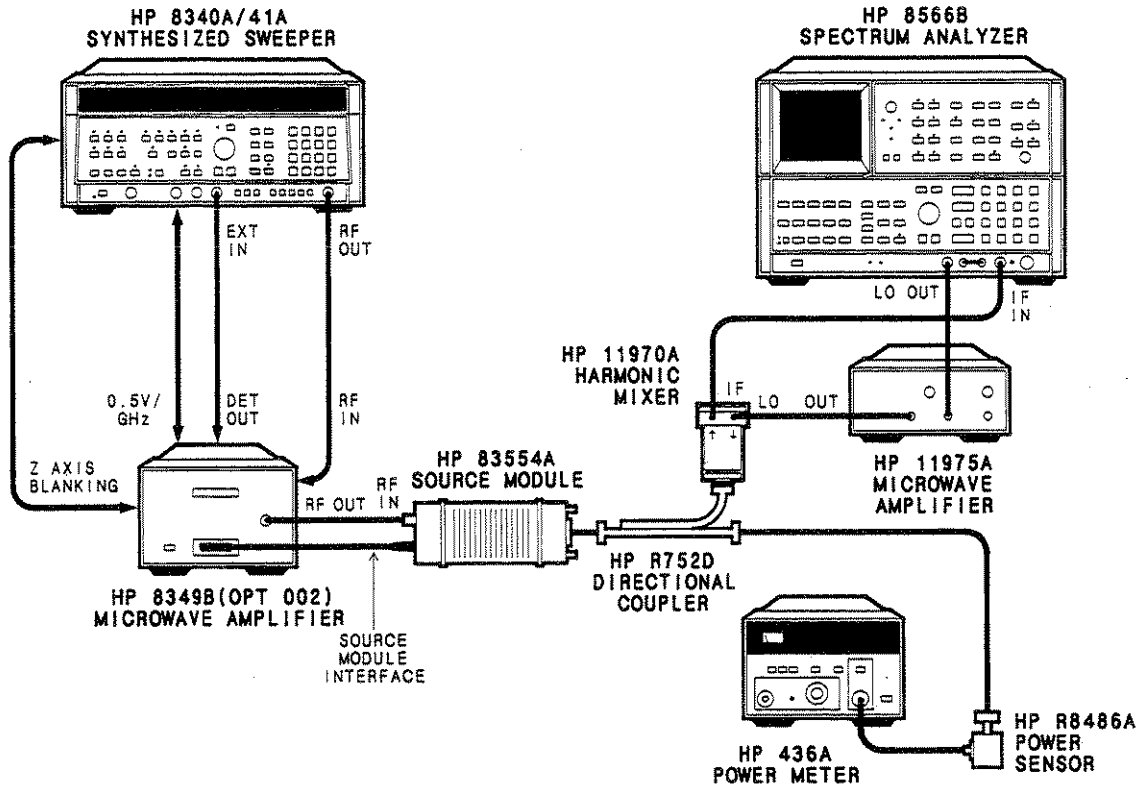

Figure 2-9. Spurious Signals Test Setup
The RF output signal from the HP 8340A/41A/83554A system is tuned from 26.5 to 40.0 GHz and is displayed on a spectrum analyzer to verify that any harmonic spurious signals are at or below their specified levels. The test configuration in Figure 2-9 uses an external harmonic mixer to extend the frequency range of the spectrum analyzer. When this technique is used, the response is not pre-selected and multiple signals are displayed. Each response is examined not only for power relative to the fundamental frequency but whether or not it is a true in-band spurious signal by using the spectrum analyzer's signal identification function.
1. Connect the equipment as shown in Figure 2-9.
Because the test configuration in Figure 2-9 specifies that the external mixer be connected to the coupled arm of a 20 dB directional coupler, the coupled power must also be taken into account when calculating reference level offset. The new equation is as follows: